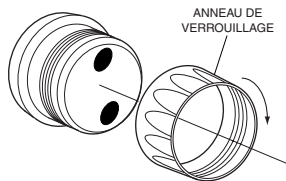

Figure 1
A. INDICATEUR DE VITESSE / HORLOGE (Figure 1)